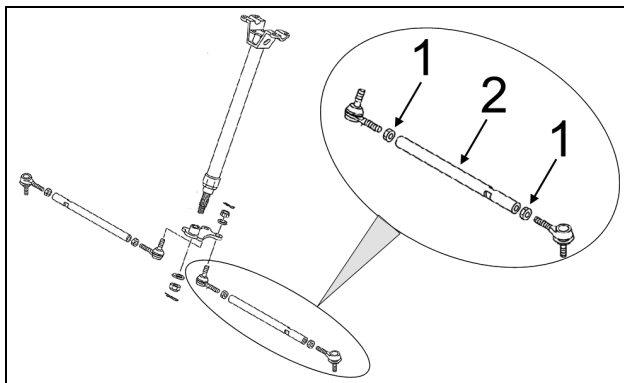
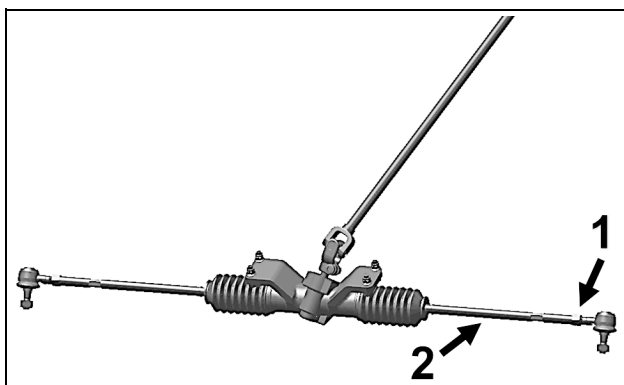

Figure 19
Figure 20
To adjust the vehicle's steering system, first loosen coupling rod nuts (1), then screw or unscrew the coupling rod (2) an equal number of revolutions on both sides of the vehicle. Retighten nuts when adjustment is complete. See Figure 19 or Figure 20.